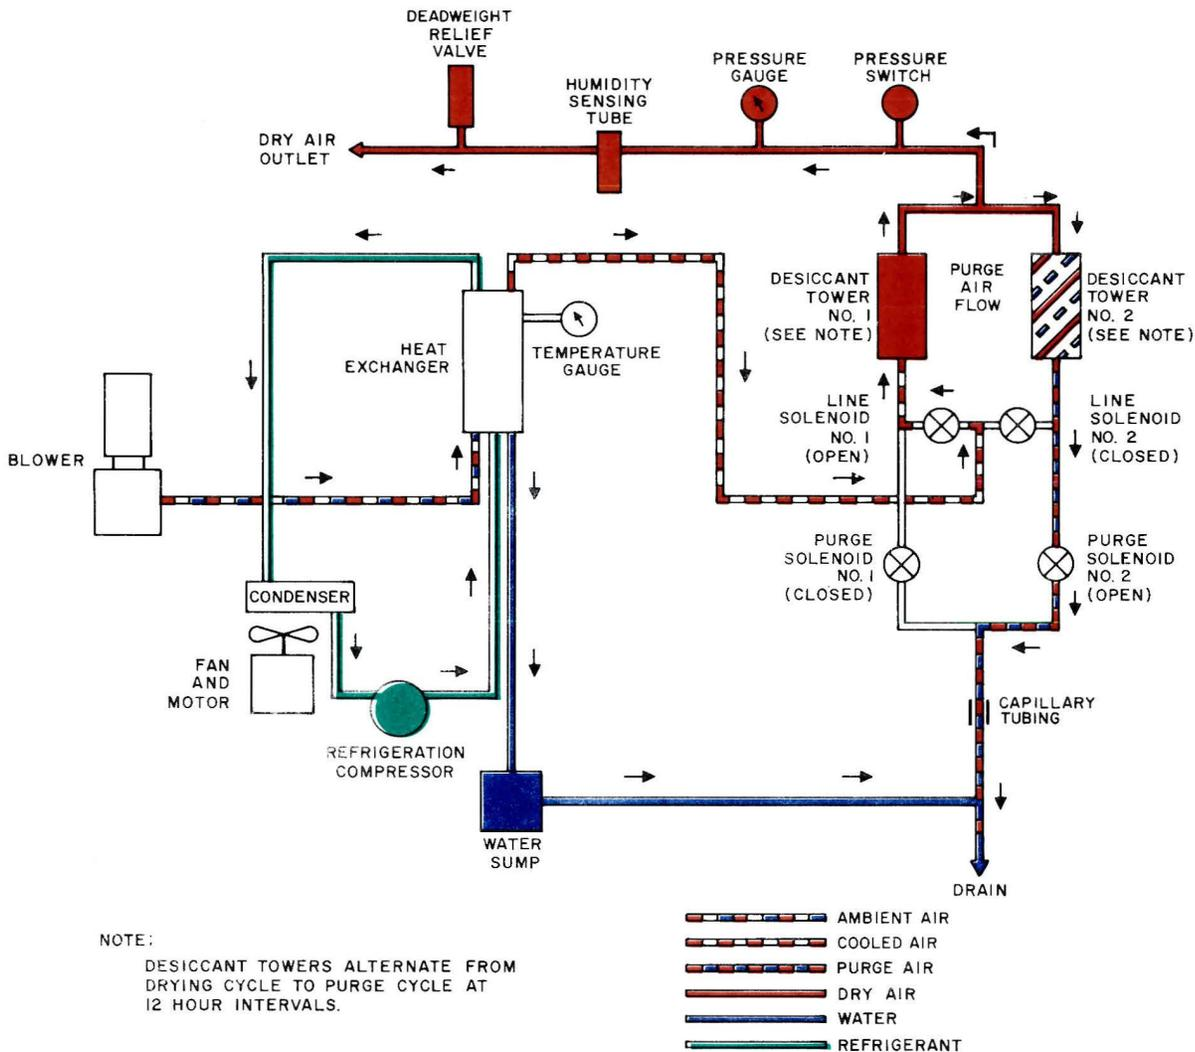

Fig. 10—KS-20183 L2 and L3 Air Dryers—Flow Diagram
3.01 A flow diagram of the air circuit is shown in Fig. 10. Ambient air is drawn through the intake air filter by the blower which operates continuously. Ambient air from the blower enters the refrigerated heat exchanger where 75 percent of the moisture content is condensed and removed through the water sump and drain outlet. From the heat exchanger, cooled air is routed through the timer controlled solenoid valves to one of the two desiccant towers for final drying. Dry air